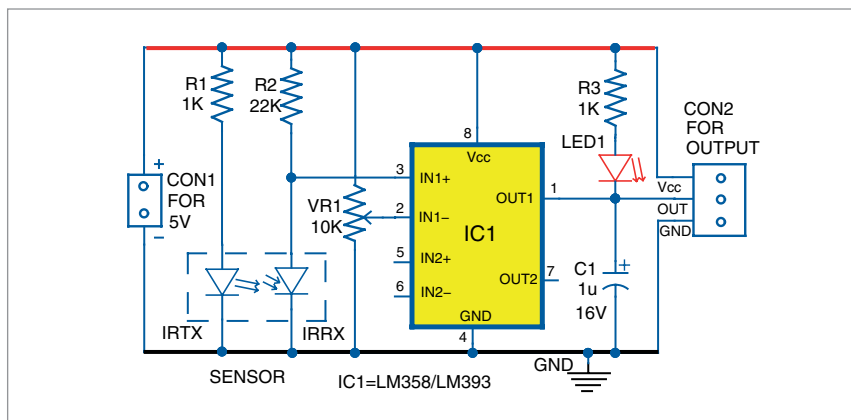

Fig. 2: Internal circuit of opto-coupler type speed sensor
**Speed sensor.** The opto-coupler type speed sensor module used here generates square wave of a specific frequency, which is a function of the speed of motor. Opto-coupler module FC-03 was used during testing. The internal circuit diagram of this speed sensor is shown in Fig. 2.